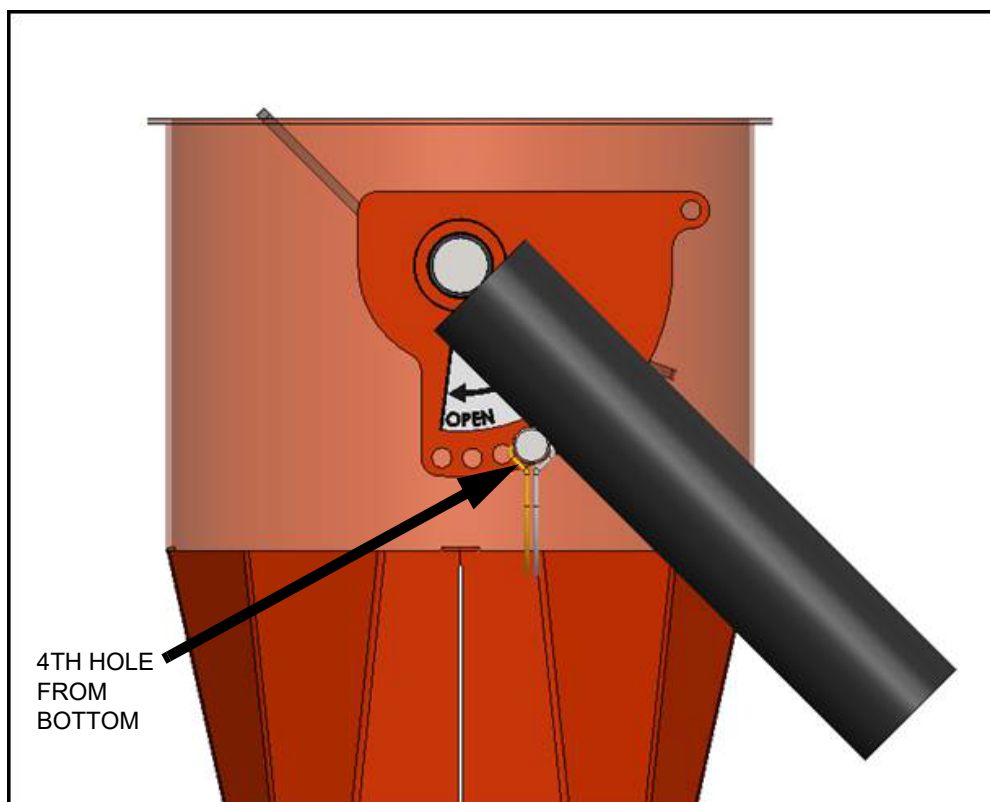

Figure 4.10 Air Throttle Partially Closed (Light Crops)
- a. In **light grains** such as sunflowers, oats, or barley, you will be able to vacuum more grain into the machine than the auger can physically take away. In cases like this, you will want to keep your auger speed going as fast as possible by keeping the GrainVac at 1000 rpm, but limit the suction by adjusting the air throttle to a more closed position (see Figure 4.10). To achieve maximum capacity in light grains, start by locking your air throttle so the lock pin is in the 4th hole from the bottom. If you don't see grain rising up in the inspection door window, continue adjusting the air throttle down one hole at a time until you see it rising up in the window. If you see it rising up in the window, raise the air throttle by one hole. By doing this, you will find the maximum capacity where you will not plug the machine, but the auger is completely full.